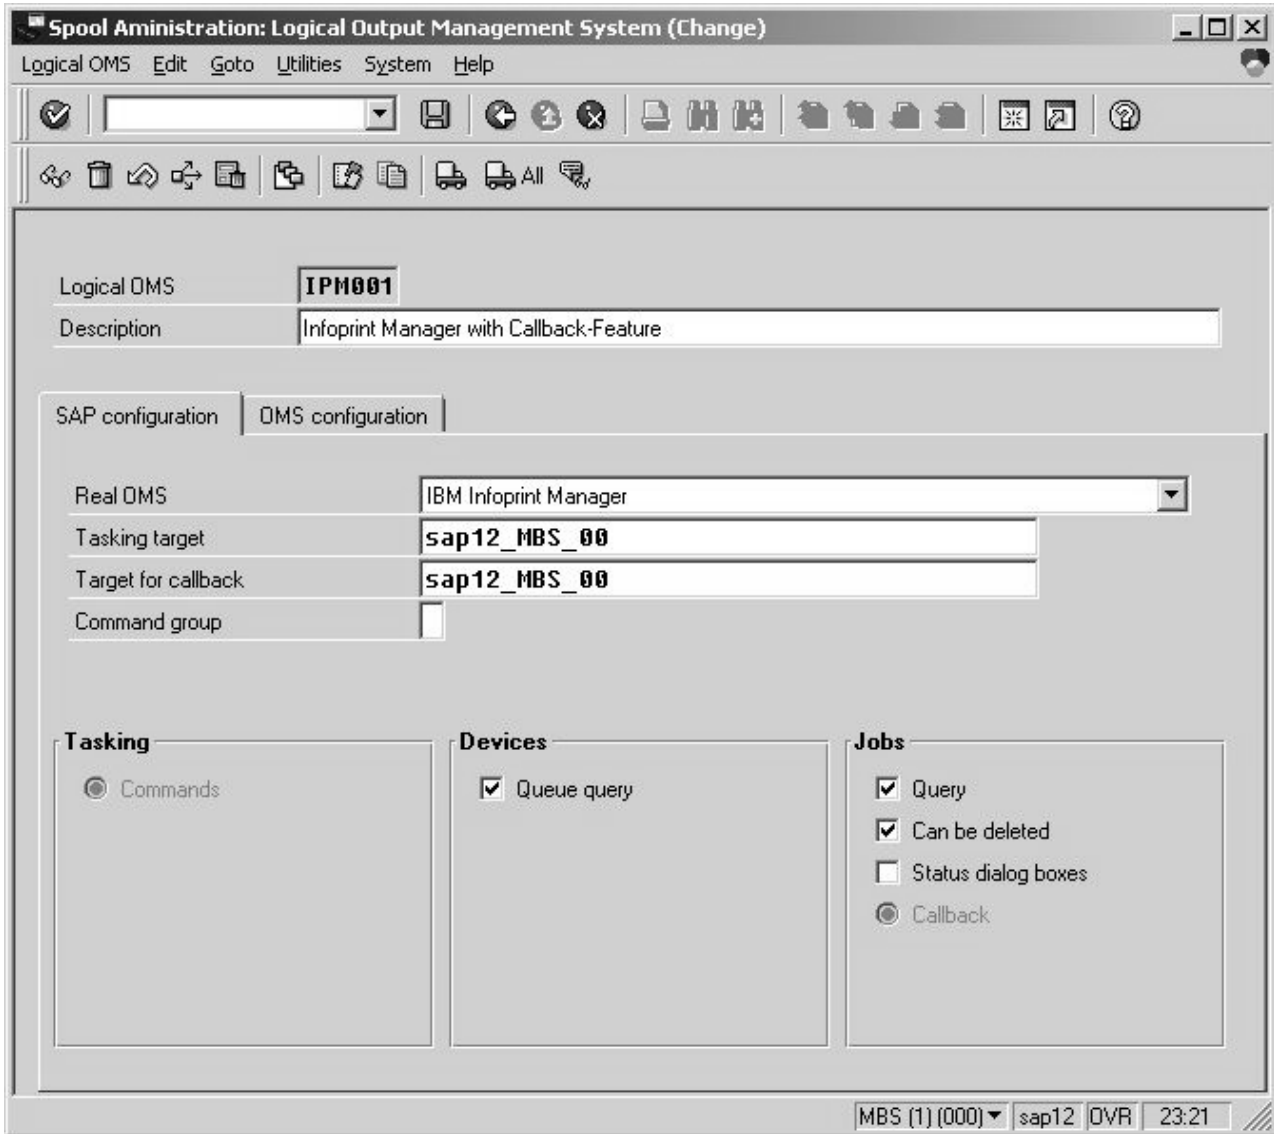
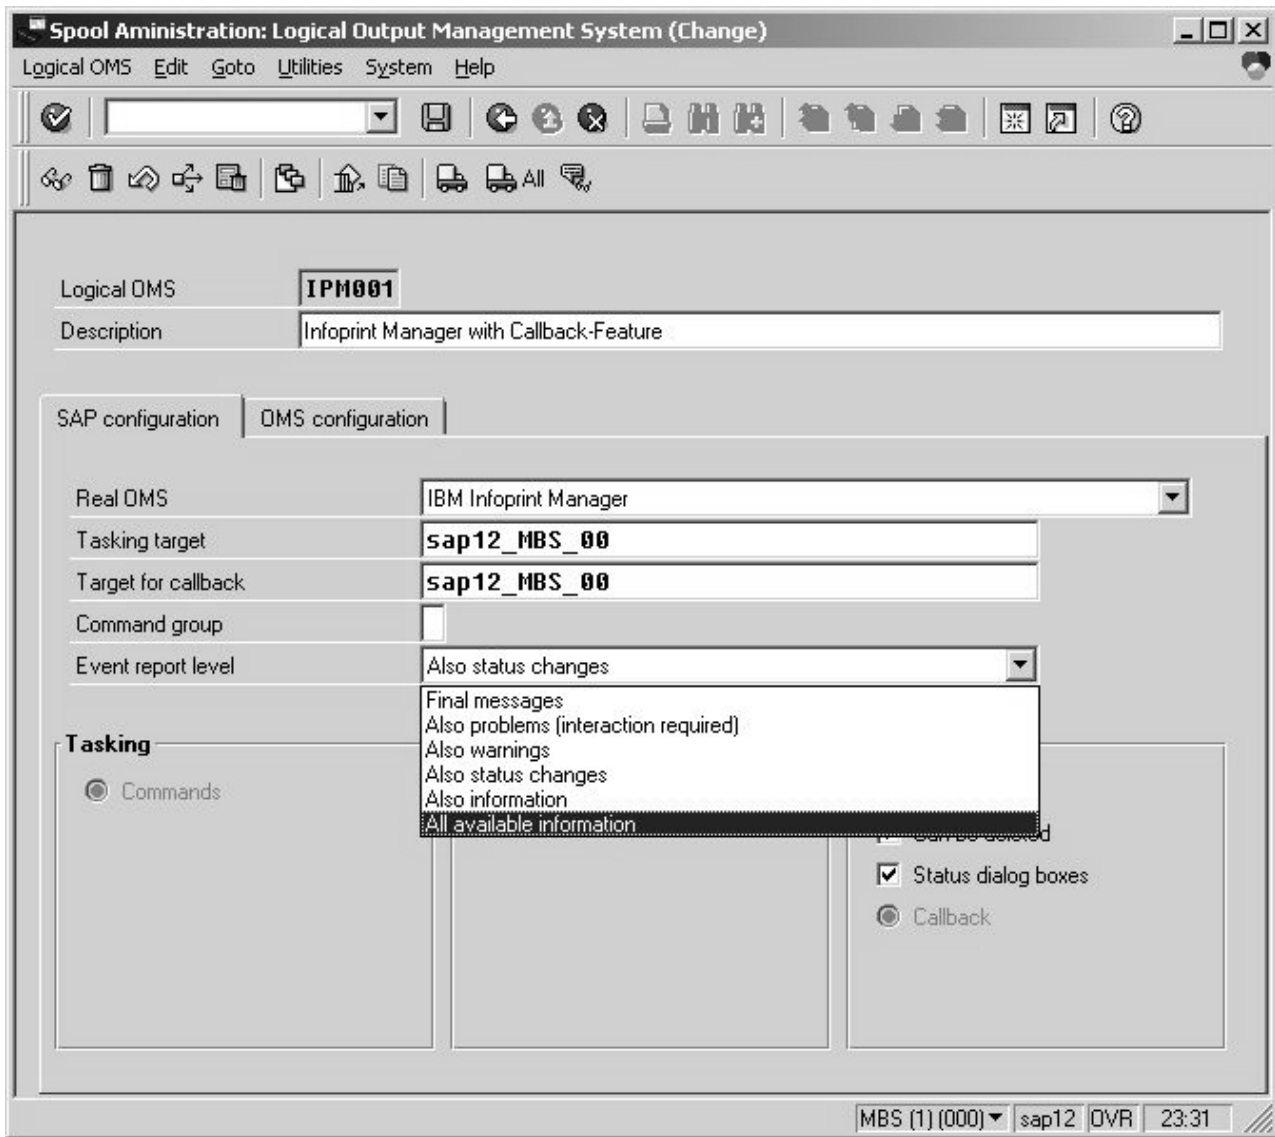

Figure 9. LOMS (Change) window: Setting tasking target and callback target
Figure 11. LOMS (Change) window: Setting the Event report level
5. From the Spool Administration: Logical Output Management (Change) window on the **SAP Configuration** tab (see Figure 9 on page 36):
- Click on the **Extended config.** (photo film with two cards superimposed on top) icon (seventh from left on the second toolbar line in Figure 9 on page 36) and specify a value for the **Event report level** field in the **SAP configuration** pane (see Figure 11 on page 38).
If you don't know what values you can specify for these variables, you can refer to the drop-down list for the **Callback target** field from the Spool Administration: Change Logical Output Management System window (for an example, see Figure 9 on page 36 and step 5 on page 35 of "Defining a logical output management system" on page 34).